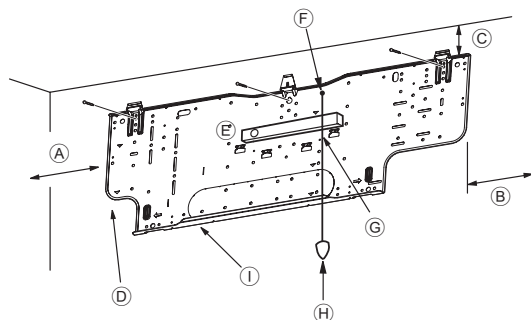
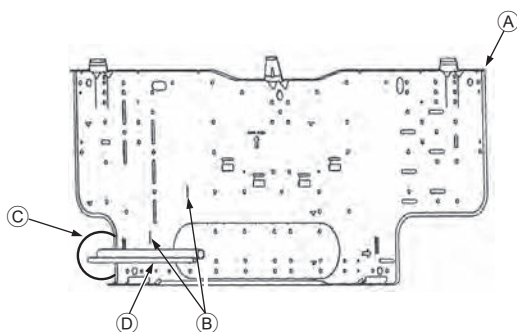

Fig. 3-4
Fig. 3-5
■ PKA-M-HA(L) (Fig. 3-4)
- ▲ Fixing screws (4 × 35) ②
- ▲ Mount board ①
3.3. When embedding pipes into the wall (Fig. 3-5)